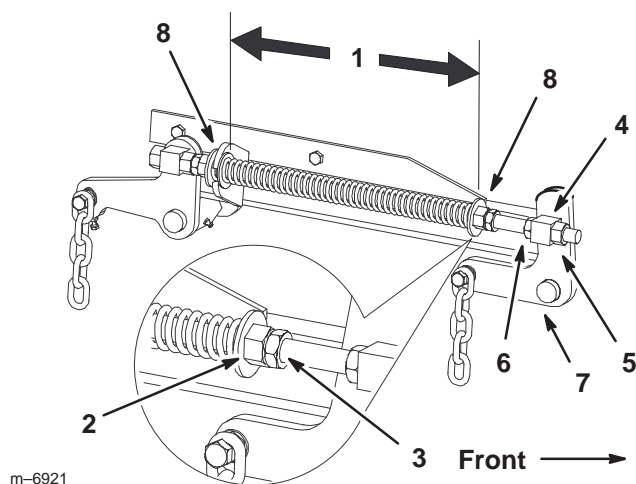

Figure 63
7. Loosen the front swivel jam nuts, at the front of the right and left swivels, approximately a 1/2 inch (13 mm) (Fig. 63).
8. Adjust the lift nuts on both the left and the right side of the machine to achieve **1/4 to 3/8 inch (6 to 10 mm) lower in front at A than in the rear at B** (Fig. 63).
1. Raise the mower lift lever to the transport position (Fig. 63).
2. Check the distance between the two large washers, it needs to be 10–1/4 inches (260 mm) (Fig. 63).
3. Adjust this distance, by loosening the spring jam nut and turning the nut in front of each spring (Fig. 63). Turning the nut clockwise will shorten the spring; counter-clockwise will lengthen the spring.
4. Lock the nut into position by tightening the spring jam nut (Fig. 63).